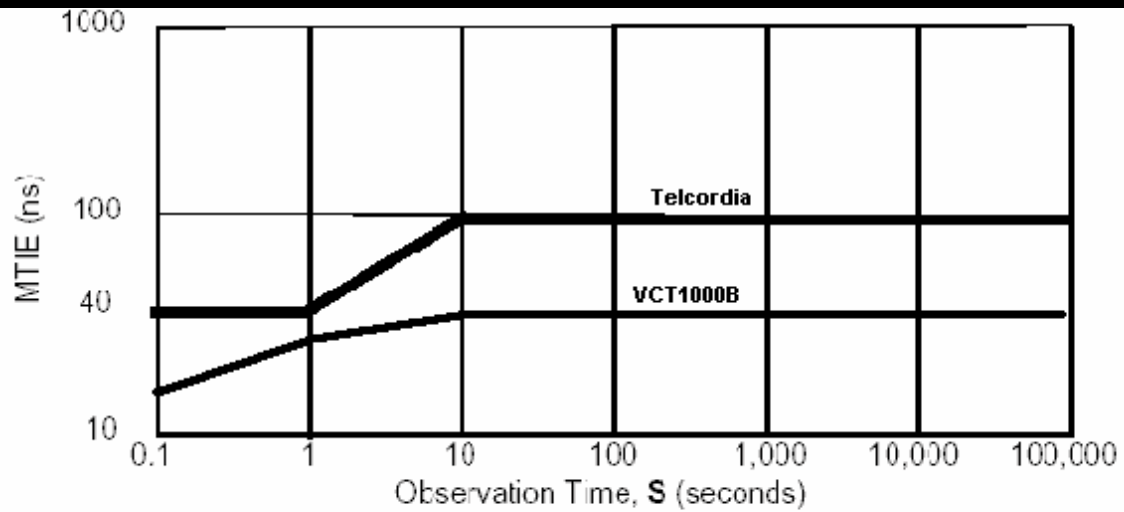

Figure 5 MTIE for Wander Generation
2.5.5	MTIE (see Figure 5 and 6)